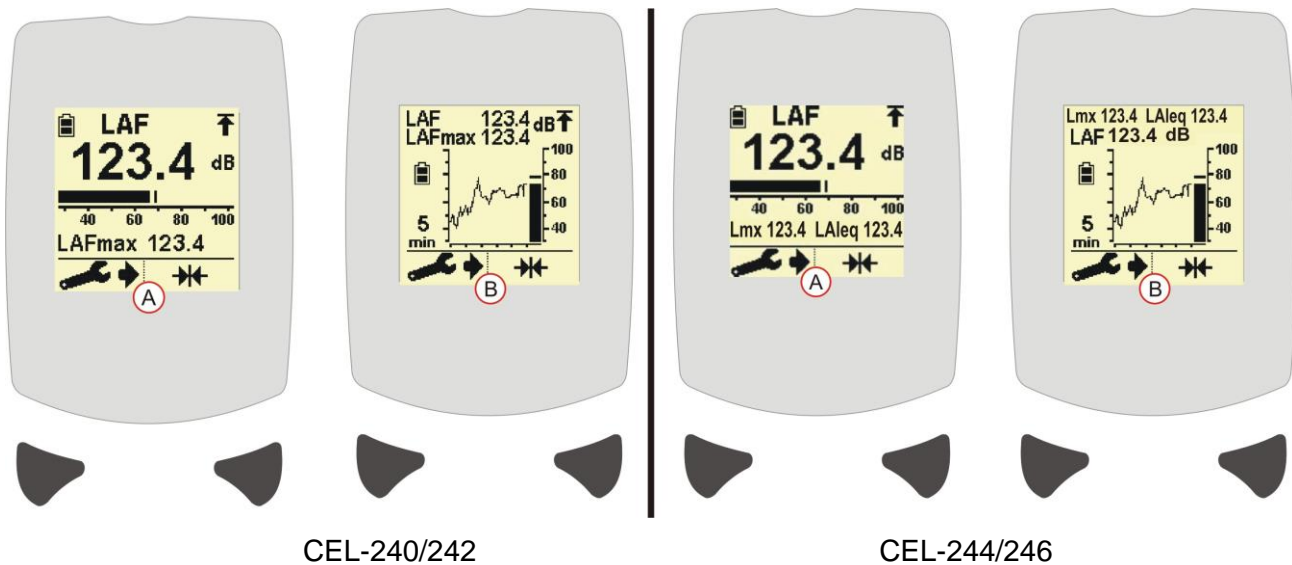

Figure 4 CEL-200 Series Bargraph and Time History Screens
- A Bargraph (Refer to Figure 4 [A]) or Time History (Refer to Figure 4 [B]) will be displayed. Refer to INSTRUMENT SETTINGS to change the Time and Frequency Weightings, or to change the type of display.
The Main Display can be toggled between Bargraph and Time History (Refer to Figure 4 (A) and (B) respectively) by pressing the (B) key.